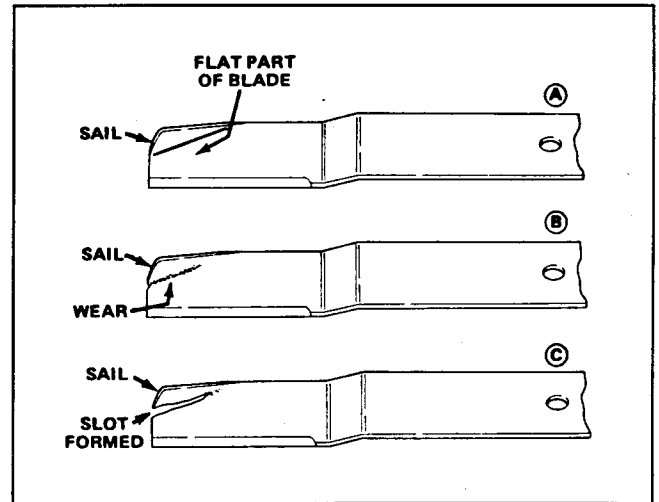

Figure 18
2. Carefully examine cutting ends of the blade, especially where the flat and sail (curved part) meet (Fig. 18). Since sand and abrasive material can wear the metal connecting the flat and sail portions, check the blade before using the machine. If wear is noticed (Fig. 18), replace the blade.
If the blade is allowed to wear, a slot will form between the sail and flat part of the blade (Fig. 18). Part of the blade may eventually break off and be thrown from under the housing, possibly resulting in serious injury to yourself or bystanders.